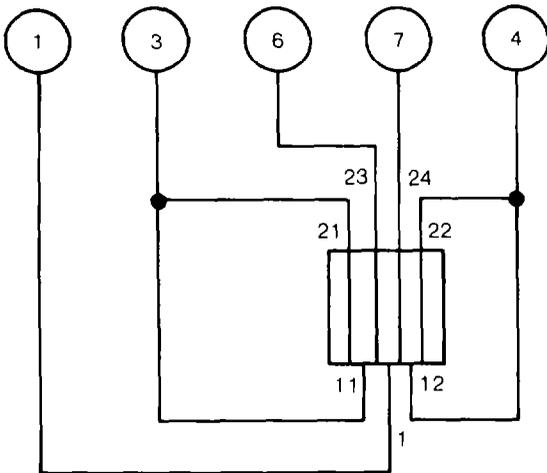

Figure 97 Test Connections
- c. Connect the valve to the test rig as shown in Fig 97.
- (1) Open FN1 until gauges 3, 4, 6 and 7 display at least 6 bar.
- (2) Slowly close FN1; open control cock 7.
- (3) Gauge 3 must show a closing pressure from 4.5 bar to 5 bar for circuit 4.
- (4) When this closing pressure is not reached, adjust the valve as per sub-para 120.1.
- (5) Close control cock 7.
- l. Adjust the valve as follows (see Fig 97):